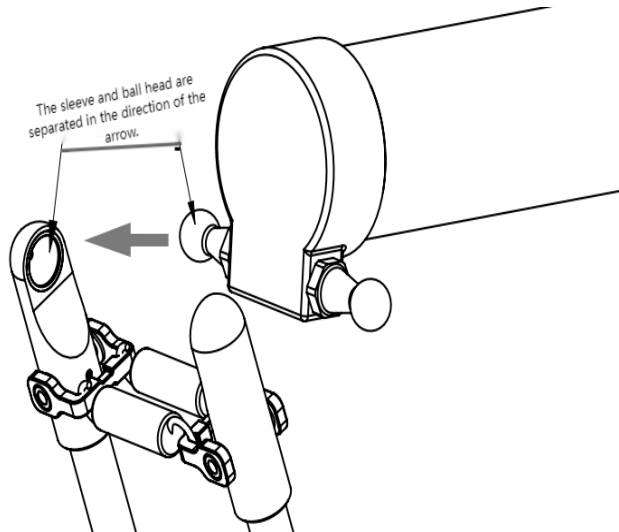

Figure 3-7 Schematic diagram of active arm end disassembly
Step 3 Pull out the spring connected to the active arm again, as shown in Figure 3-7, and then place the disassembled driven arm on the cardboard. At this time, pay attention to the moving platform to prevent it from falling suddenly.